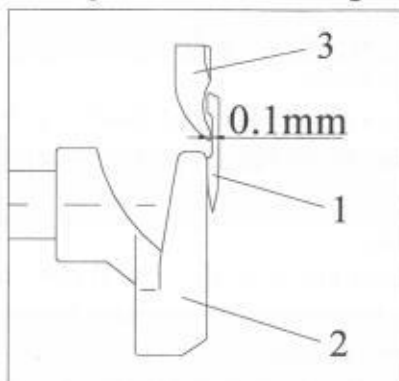
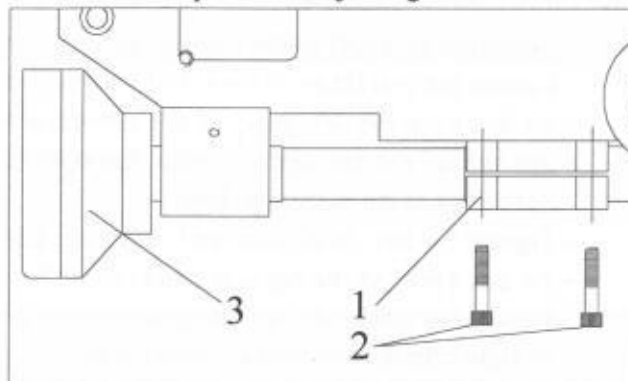

Fig.7
Fig.8
4.3 Setting the shuttle position (Fig.7 ,Fig.8)
The correct position of the shuttle is that the tip of the shuttle 3. near to the slot of the needle 1. about 0.1mm. (as shown in Fig.7)
To adjust it, proceed as follows: (Fig.8)